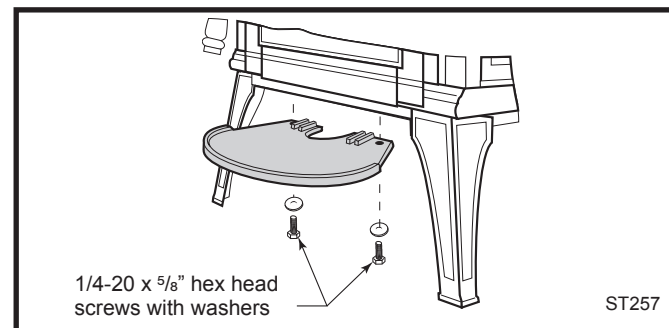

Fig. 23 Attach the Ashlip to the bottom plate.
Use a 7/16" wrench to secure the Ashlip to the stove bottom with two, 1/4-20 x 5/8" hex head screws and washers found in the holes used to attach the ashlip. (Fig. 23)
2. Locate the hex bolt (Fig. 23) located in the center rear edge of the stove bottom plate. Loosen this bolt just enough to engage the Adapter clevis tab under the washer and then retighten.